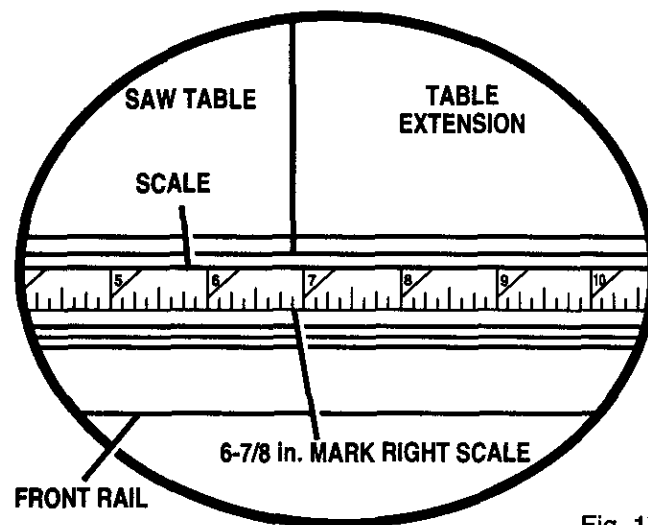

Fig. 17
- Align the rail left to right - Match the 6-7/8 in. mark on the right scale to the right edge of the saw base (main table). See Figure 17.